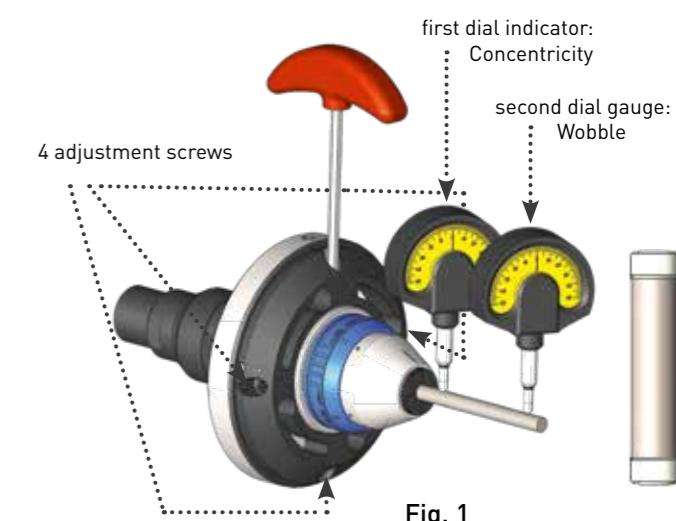

Fig. 1
1. Attach two dial gauges (Fig. 1).
2. Keep the alignment hammer (4) and clamping wrench (5) handy.